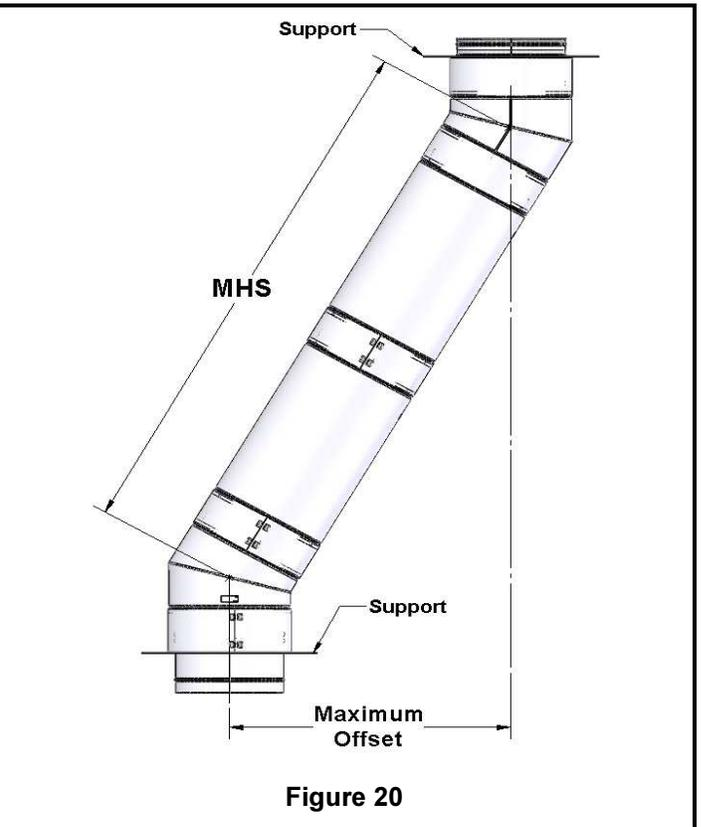

Figure 20
- The maximum length of offset, if one is necessary, is determined by strength considerations. The maximum dimension between supports (Base Supports or Wall Supports), given as the "MHS" dimension in the **Support Methods and System Design Limits (Table 7)** section of these instructions, is applicable to all horizontal and sloped orientations. (See **Figure 20**)